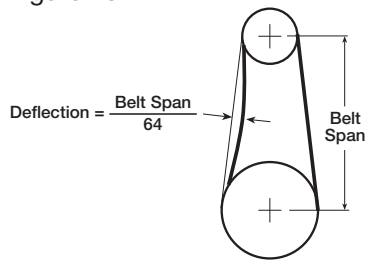

Figure 13
11. Belt tension should be adjusted to allow 1/64 inch (0.397 mm) of deflection per inch of belt span. For example, a 15 inch (381 mm) belt span should have 15/64 inch (0.234 mm) (or about 1/4 inch (6 mm)) of deflection with moderate thumb pressure at mid-point between pulleys, see Figure 13.